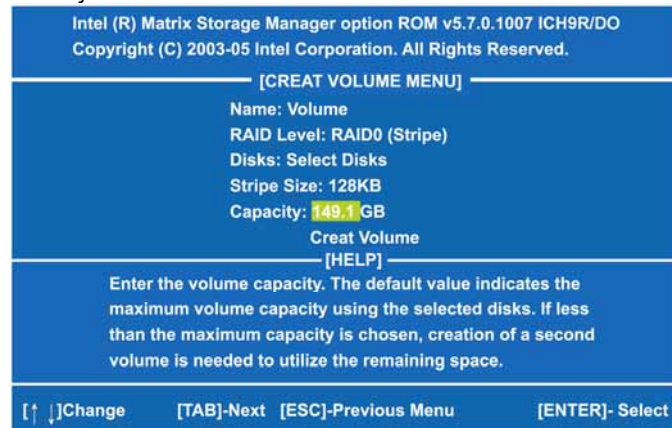

Figure 7
- (3)-5 After setting all the items on the menu, select **Create Volume** and press ENTER (as Figure 7) to start creating the RAID array.